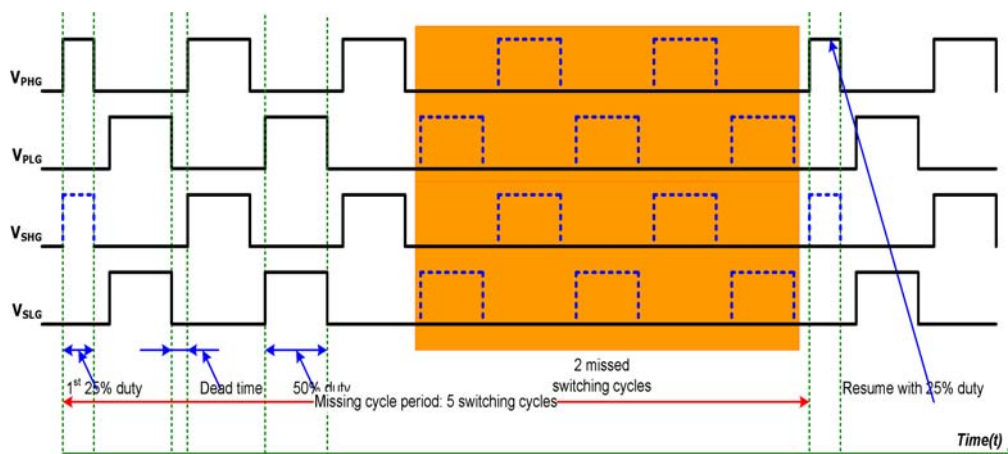

Figure 11 ICE2HS01G gate output during Missing Cycle
If the current sense voltage is lower than the preset reference level on V_{mc} pin for 20ms, IC enters into a Missing Cylce (MC) mode, where every two out of five switches are removed to reduce the average switching frequency. V_{ref} pin is the output of internal reference voltage, which is an accurate 5V voltage source, with up to 2 mA. A typical output gate drive waveforms in MC mode is shown in Figure 11.